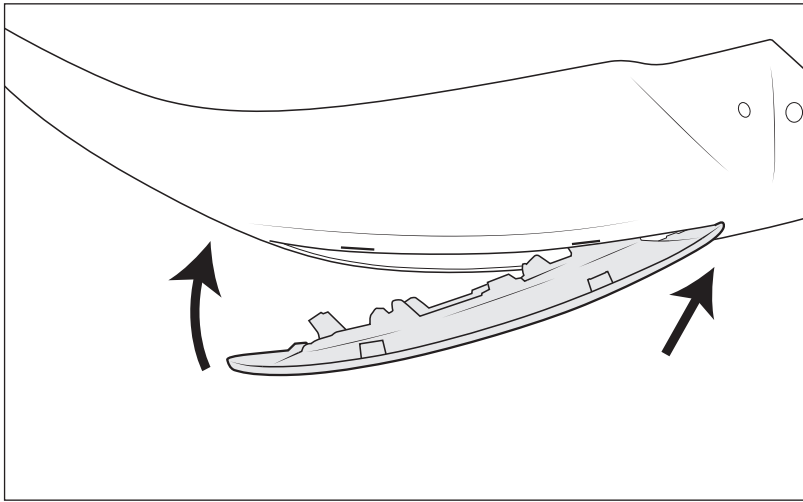

Figure 32
- C. Carefully position the bezel on the bumper corner and install. It helps to start by hooking one end of the bezel onto the corner and working across the bezel. Ensure that all metal clips are fully seated and both plastic tabs are snapped into place (fig. 32).